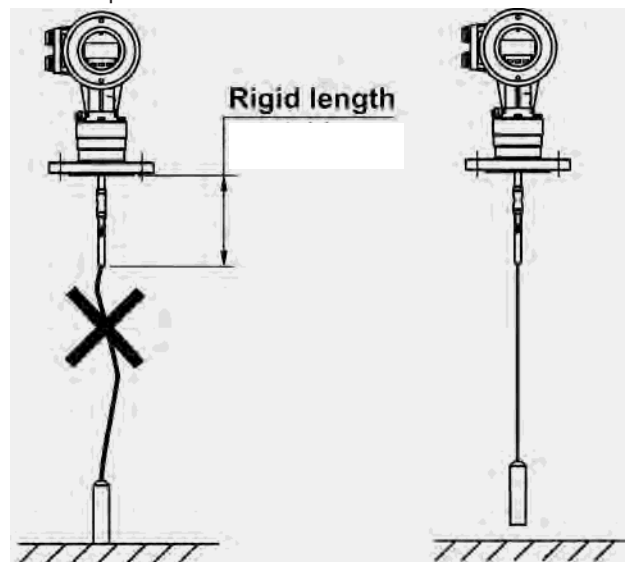

Figure 22
- 6) Handle the Flexar probe carefully in accordance with all instructions within the Pre-Installation Considerations section. For cable probes also refer to Figure 22 and Table 6. The cable must be straight once inserted into the vessel. The cable counterweight should not touch the bottom of the vessel. The cable must be located away from other objects (e.g. ladders, mixers, etc.) to avoid entanglement and contact.